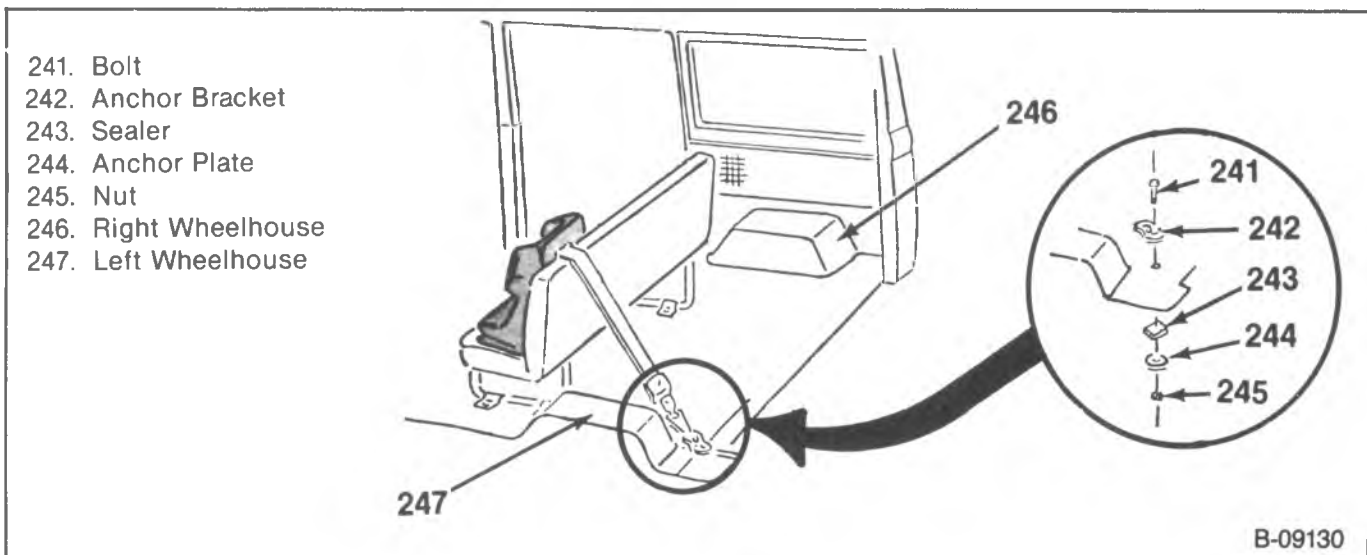

Figure 45—Third Seat Top Strap Components—Left Position
1. Determine the location for the anchor by measuring 76 mm (3-inches) rearward from the left wheelhouse. Measure 10 mm ($\frac{3}{8}$ -inch) inboard from the left wheelhouse. Mark the position where those measurements meet (figure 45).